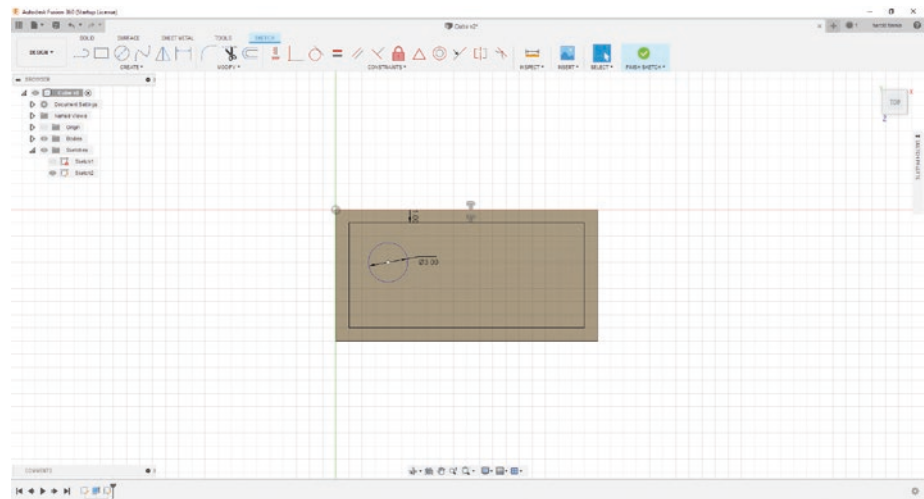

Figure 3-64. Add a dimension to the circle (3mm)
16. Now you will notice the circle is not constrained; let's fix this. First, press the “D” key and select the circle's edge; type in 3mm. Press “Enter” when you are finished. See Figure 3-64.